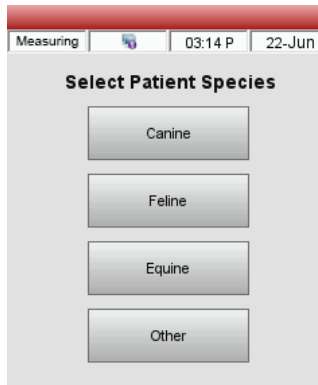

Figure 18. Measurement> Select Patient Species screen
- Select the species (figure 18).